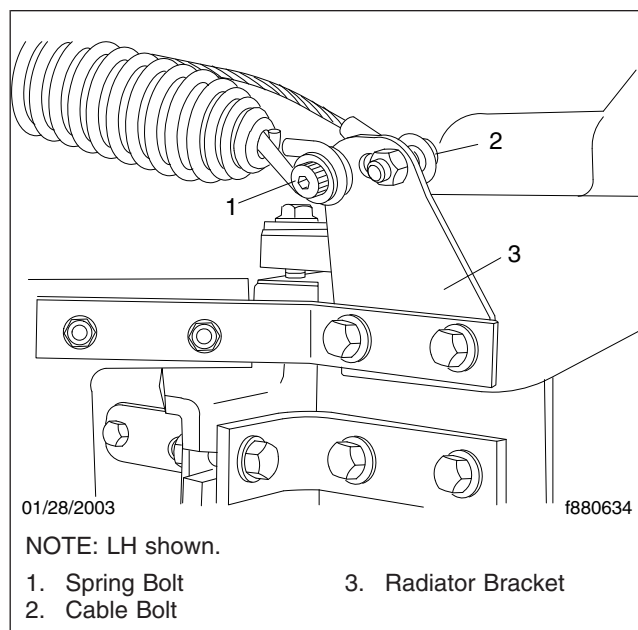

Fig. 2, Torsion Spring and Safety Cable
4. Remove the bolts that attach the springs and the safety cable to the radiator mounted bracket. See Fig. 2.